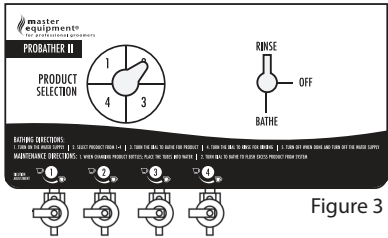

Figure 3
3. Turn the shampoo source knob to 1, 2, 3 or 4 to choose the product, as shown in Figure 3.